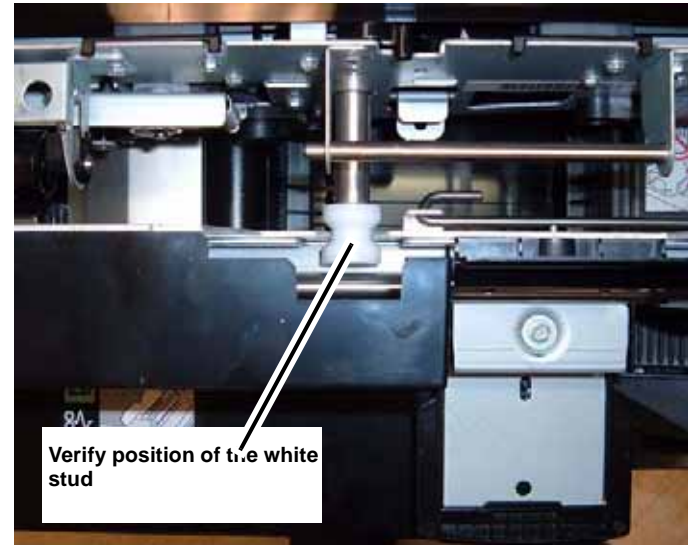

Figure 6 Reinstalling the Transfer Belt Unit
1. Ensure that the white stud is positioned in the frame cut-out (Figure 6).